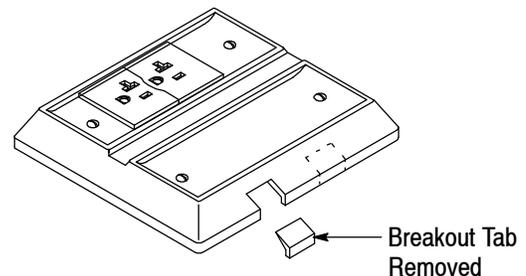

Figure 8
a. Center the modular jack bracket over the scribe lines of the mounting plate, then secure it using the adhesive-backed foam tape (provided with the bracket). See Figure 8, Detail A.
c. Insert the modular jack into the bracket with the movable latch facing the base of the bracket until it is secure. Using tape, secure the cable to the floor. See Figure 8, Detail B.
d. Remove the break-out tab(s) from the cover that correspond to the modular jack(s). See Figure 8, Detail C.